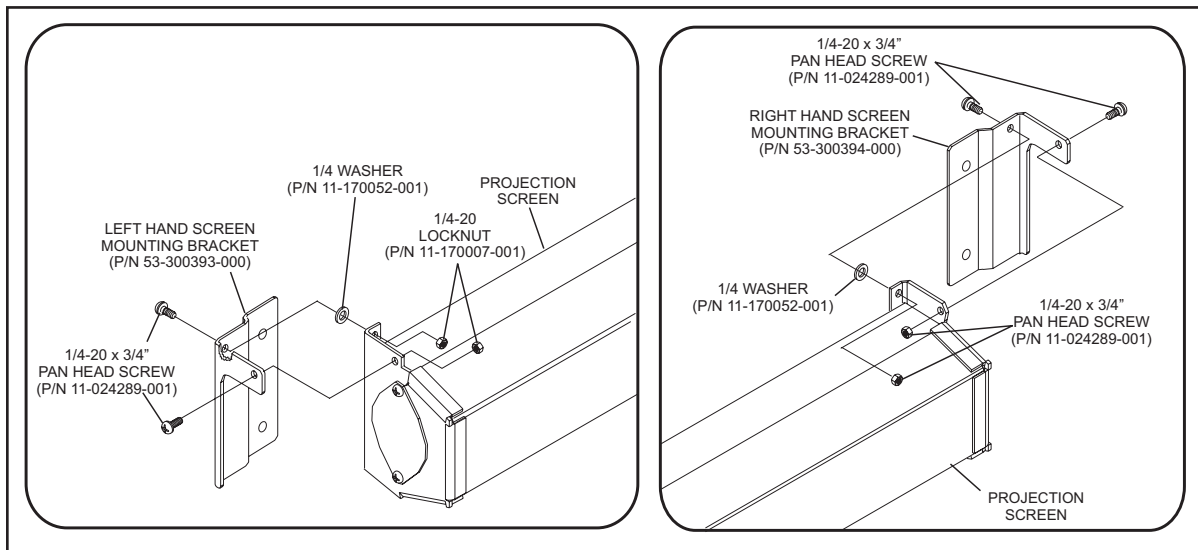

Figure 64
1. Secure Bracket to screen. Refer to *Figure 64*.